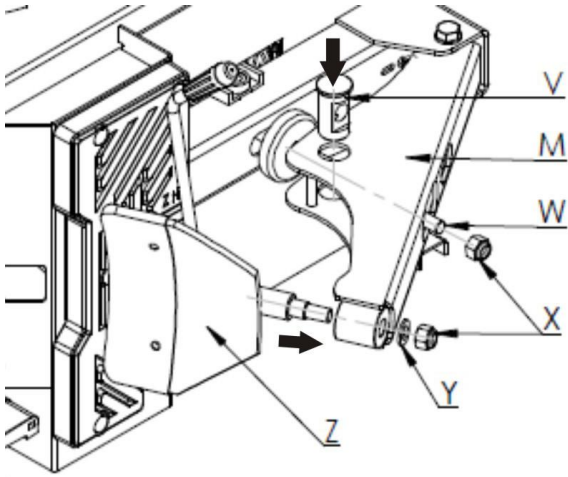

Fig.6-c
- Step 3 , Bead breaker cylinder location pin installation, Pull out breaker arm M, till location pin V can be put into the breaker arm hole ( note: make sure the slot side of location pin V is on outer side.) Let arm M go back after location pin V is installed. ( note: Insert Piston rod W through hole of location pin V) , Fasten connecting nut X when arm M lay back. as fig.6-c.
- Step 4 , shovel installation, As fig.6- c , shovel Z installation from inside to outside, install into the hole of arm M, install flat washer Y, fasten X connecting screw.